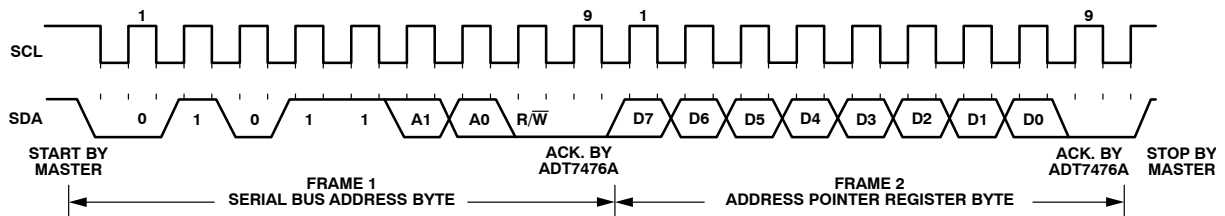

Figure 19. Writing to the Address Pointer Register Only
1. If the ADT7476A's address pointer register value is unknown, or not the desired value, then it must first be set to the correct value before data can be read from the desired register. This is done by performing a write to the ADT7476A as before, but only the data byte containing the register address is sent, because no data is written to the register (see Figure 19).